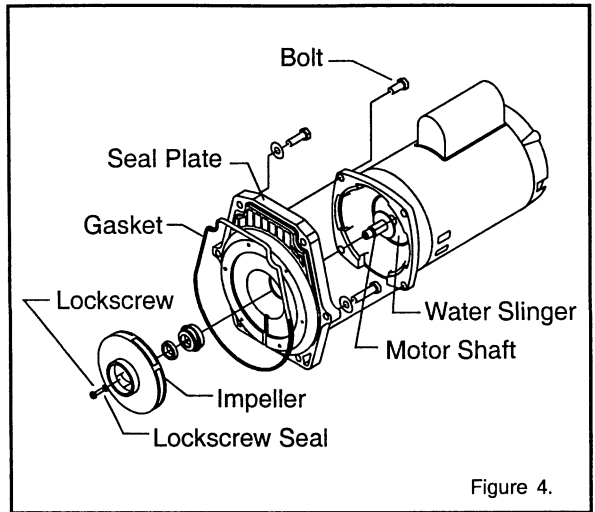

Figure 4.
B. Pump Reassembly/Seal Replacement; see Section V, Technical Data, Figure 4.